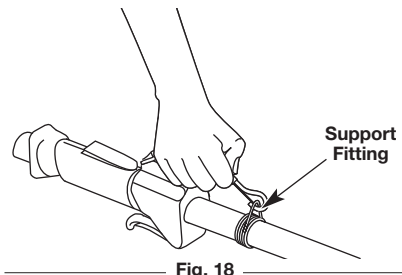

Fig. 18
3. Put the harness on over head and onto shoulder. Snap it on to the support fitting (Fig. 18).